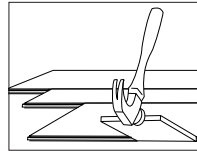

Figure 9
- It may be necessary to align the product with a cut-off piece of scrap as shown (Figure 9 – keep scrap angle low to avoid edge damage).